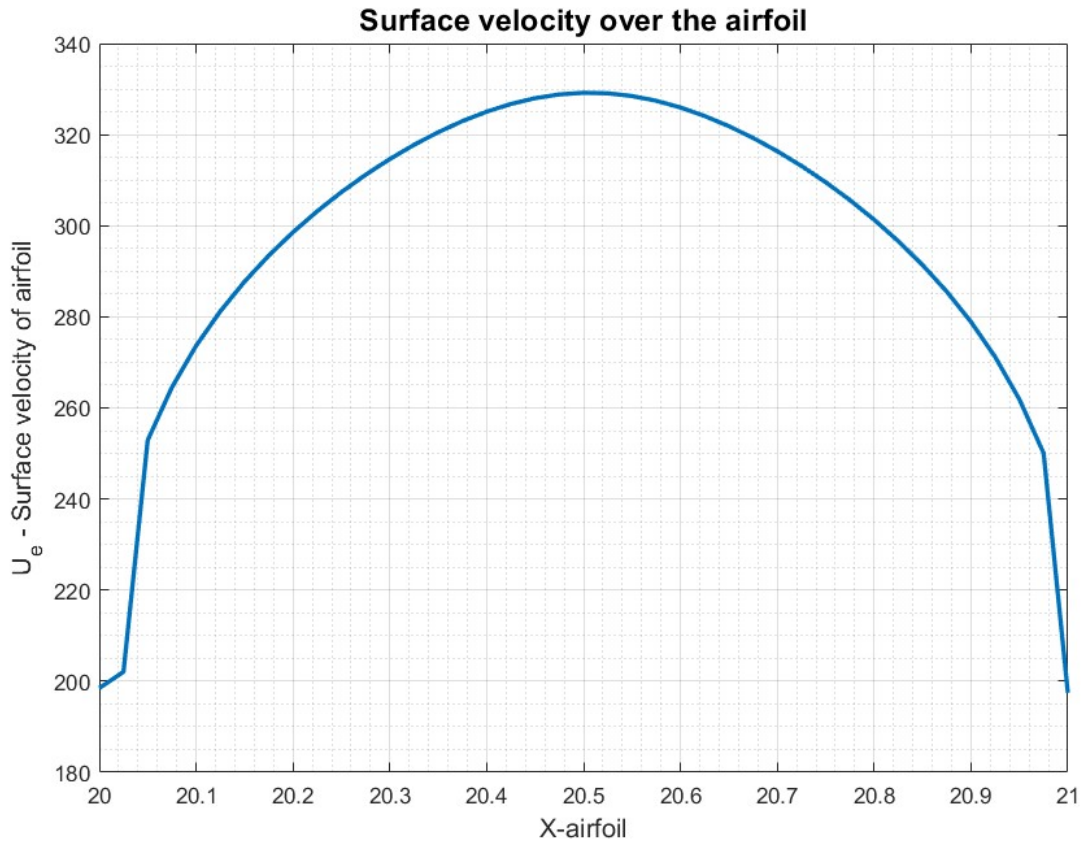

Fig:4 – Surface velocity over the airfoil from TSD code
- Fig 4 shows the Surface velocity over the airfoil from TSD code.